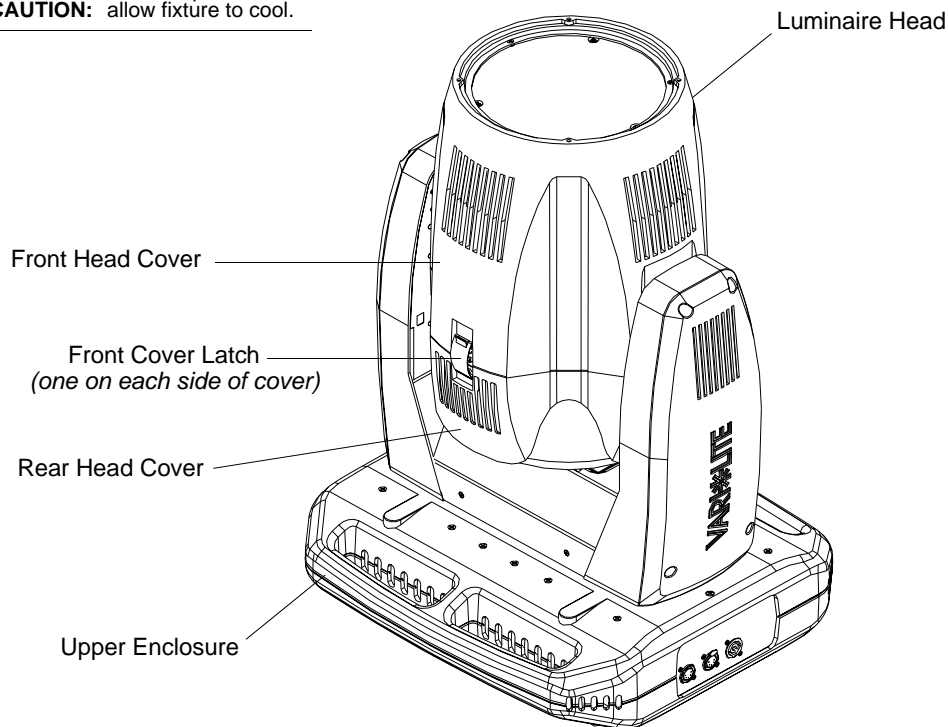

Figure A-10: VLX Wash Luminaire
- Step 2. Carefully set luminaire on upper enclosure, rotate head as shown in Figure A-10, and engage tilt lock.